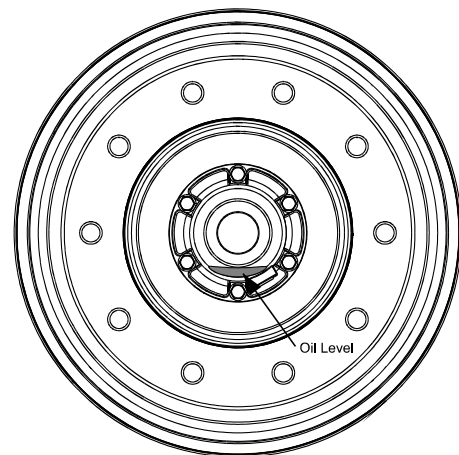

Figure 11 - Wheel Bearing Oil Level
26. Vehicle suspension should be at ride height when checking hub oil level. Check oil level through the hubcap window (Figure 11). If level is below the “add” level line, then fill with recommended oil until “full” level is achieved. Add oil slowly since the heavy weight oil will settle slowly in the hub.